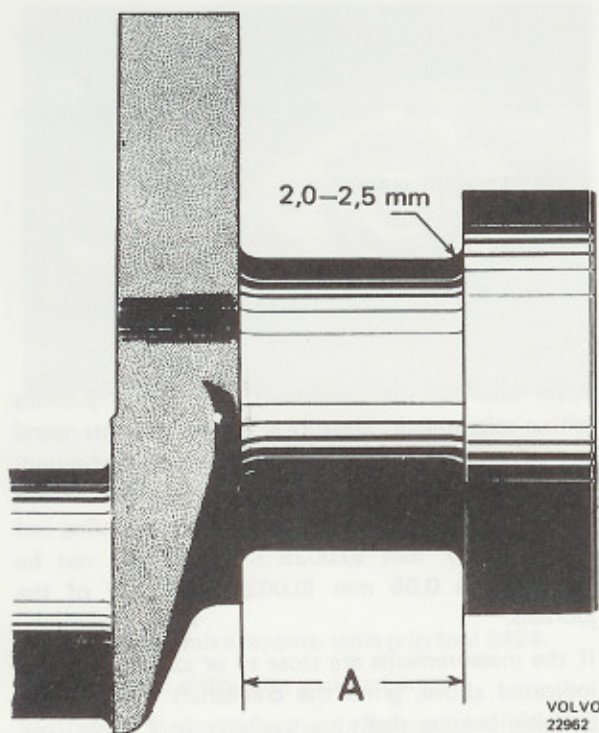

Fig. 21-51. Bearing journal
The journal fillets should be 2.0-2.5 mm (0.08-0.10") for all journals, Fig. 21-51. The width measurement (A) for the pilot bearing will depend on the size of the journal and should be ground so that the correct measurement is obtained. After the grinding the oil channel openings should be carefully cleaned and all journals lapped with a fine lapping paste to best surface finish, after which the shaft is washed. Clean all oil channels with particular thoroughness in order to remove all residues of filings and grinding paste.